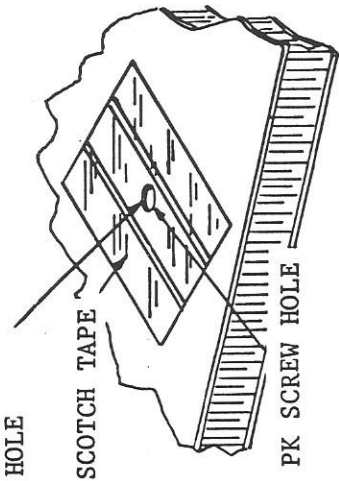

FIGURE 1. CABIN FLOOR HONEYCOMB REPAIR
4. Fabricate plates from 1/4" aluminum or 1/8" steel stock as shown on figure 1 (2 for each hole being repaired). See figure 1A for plate dimensions and hole locations.